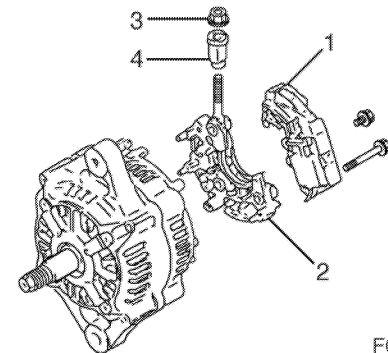

Figure 392
4. Remove the bolt retaining the regulator assembly (1, Figure 392) to the holder (2, Figure 392).
5. Remove the bolts retaining the holder (2, Figure 392) to the rear frame housing. Remove the holder.
6. Remove the nut (3, Figure 392) retaining the insulation bushing (4, Figure 392). Remove the insulation bushing.